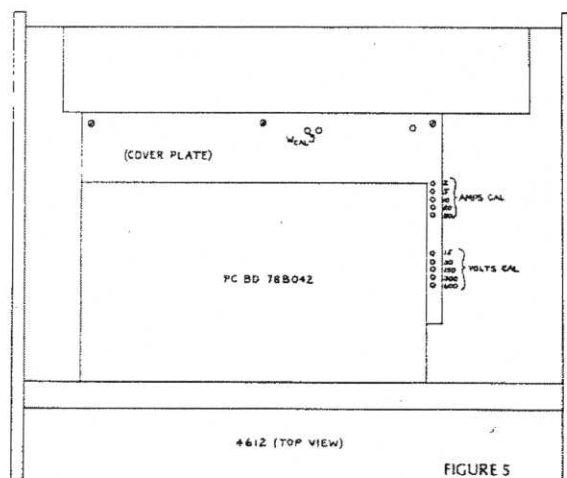

FIGURE 5
12.1. 1 **VOLTS CALIBRATION** A source of stable AC voltage of known value is required. Turn on the power analyzer and apply the potential to the black and white input terminals. After a suitable warmup time, refer to Figure 5 and adjust the appropriate trim pots, accessible through the holes in the cover plate, until the indicated value agrees with the diagrammed reference.